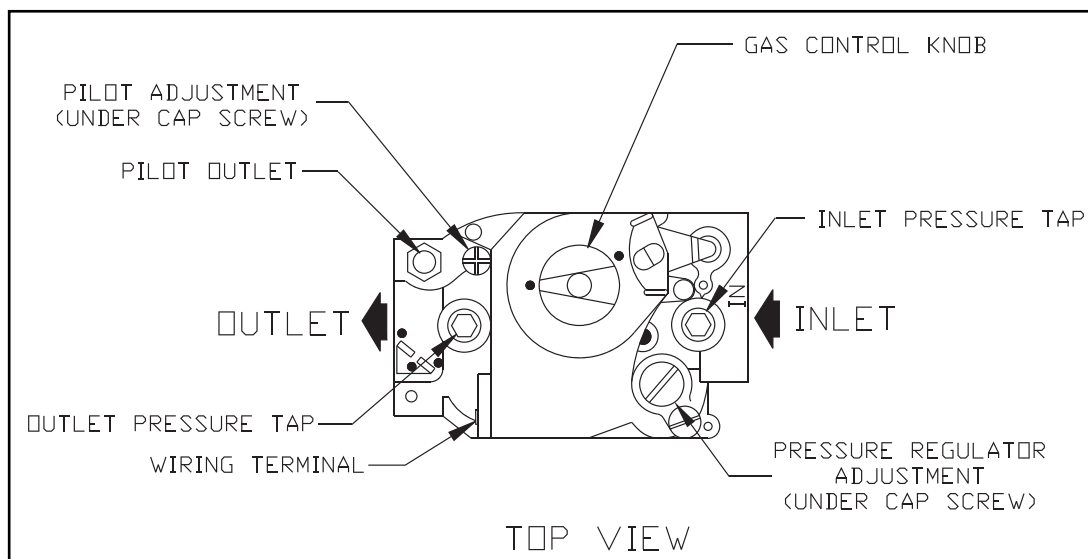

FIGURE 25: GAS VALVE DETAIL - HONEYWELL VR8204 AND VR8304
- Connect a manometer to the inlet pressure tap on the gas valve (see Figure 25).
- Connect a manometer to the manifold (outlet) pressure tap on the gas valve (see Figures 25).
- If a manifold pressure adjustment is needed, make the adjustment by turning the pressure regulator (see Figure 25) screw clockwise to raise the pressure and counter clockwise to reduce the pressure. If a manifold pressure adjustment is made, recheck the line pressure to be certain that it is still within acceptable limits. Replace the cover screw on the regulator.